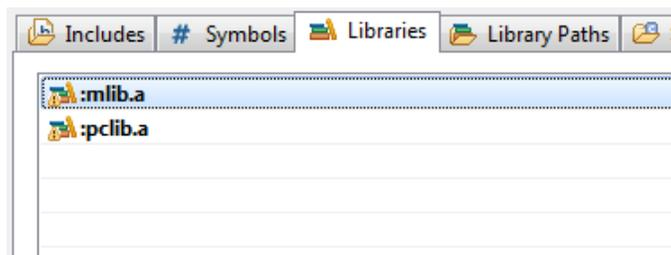

**Figure 1-22. Library paths**
- In the right-hand dialog, select the Library Paths tab. See Figure 1-22.
8. Click OK, and the will be visible in the list. See Figure 1-22.